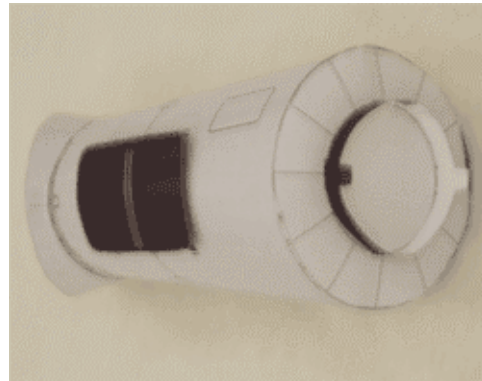

Figure 3
12. Cut out parts 13 and 14. Do **NOT** cut out the center of part 14. Note the orientation point A arrow on part 14. Cut the 4 slits in part 14. Form part 13 into a collar and insert 4 tabs on one side of the collar into the 4 slits on the shaded side of part 14. Apply glue to the 4 tabs. Fold them over and apply small pieces of tape to each one to make sure the glue sticks well. See Figure 3. **You don't want these to come loose later since there is no way to repair them.**
15. Fold the tabs on part 14 up, towards the mirror. See Figure 2. **Note** the location of the arrow on part 14, the photometer base. Apply glue to the tabs and to the inside of the wide end of the photometer tube. Align the arrow on part 14 with the seam on the photometer tube. Slide part 14 into the wide end of the photometer tube. See Figure 3.
19. Apply glue to the top ring of the photometer, part 5, and the bottom of the sunshade part 4. Note the location of the seams on parts 1 and 2. These must be 180° apart, that is opposite each other, **NOT** aligned with each other. The low side of the sunshade should be on the same side of the photometer tube as the radiator, part 3. See Figure 3